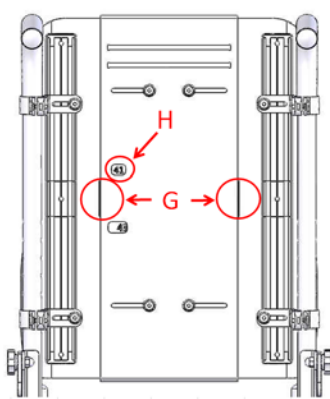
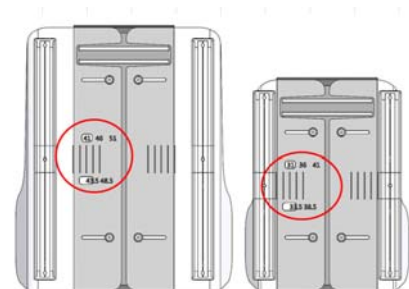

Figure 5-82
Figure 5-83
5.3.5.13 When adjusting the backsupport width, be sure the number H in the window matches with the seat width and both edges of the plate is in line with the marks G. (Figure 5-82) Re-tighten the screws C and the torque is set at 10N/m or 88in/lb . (Figure 5-83)